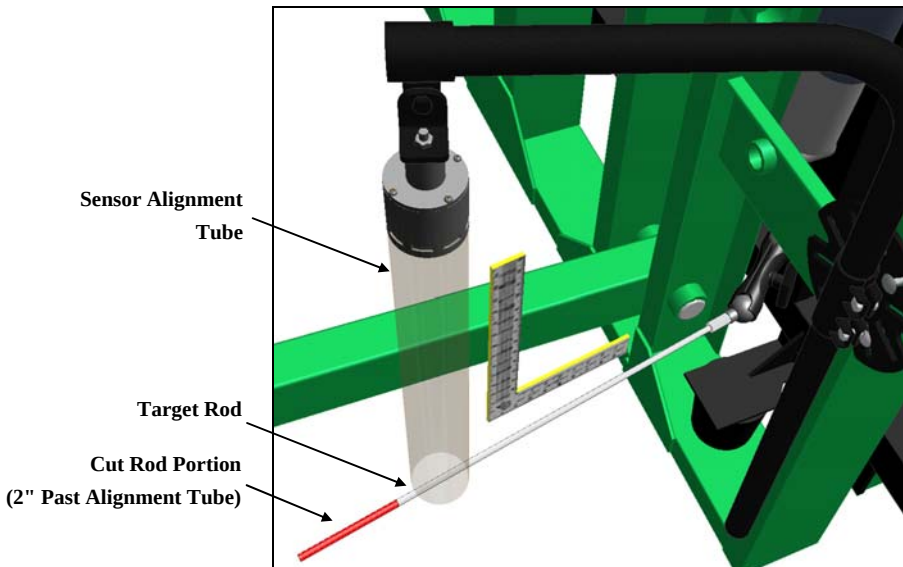

Figure 3 – Sensor Alignment Tube
- The target rod should cross the sensor's central axis. The sensor alignment tube (**Figure 3**) will help make these adjustments.